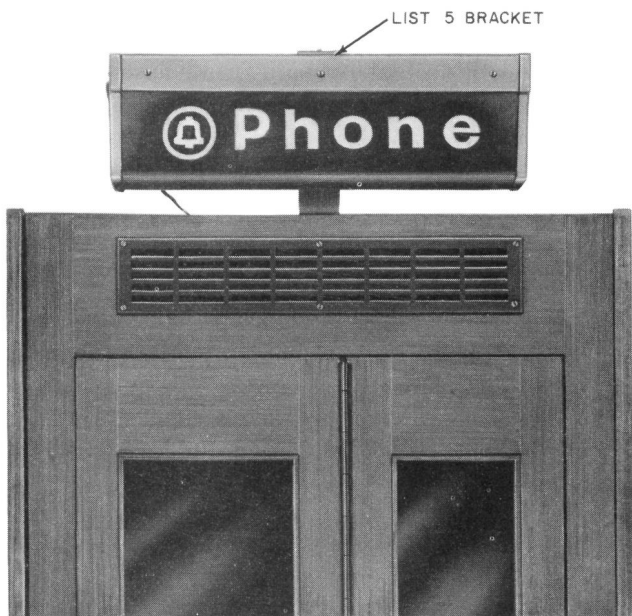
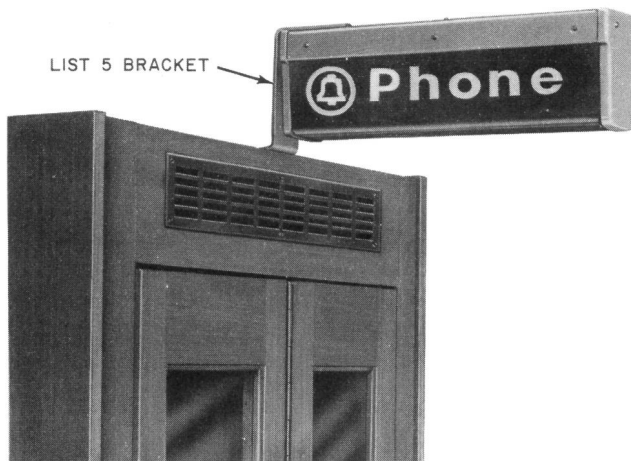

Fig. 17—Parallel Installation of KS-16422 Sign
Fig. 18—Projecting Installation of KS-16422 Type Sign
3.01 The sign and mounting brackets are designed to permit parallel mounting with the mounting surface (Fig. 17) or projection at right angles from the mounting surface (Fig. 18).